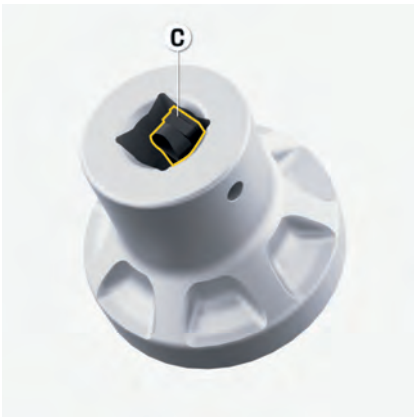

Fig. 195: Socket with auxiliary tool
3. The auxiliary tool is located in socket **C** (Fig. 195) to remove the cover. Remove this from the square and stow it there after use.